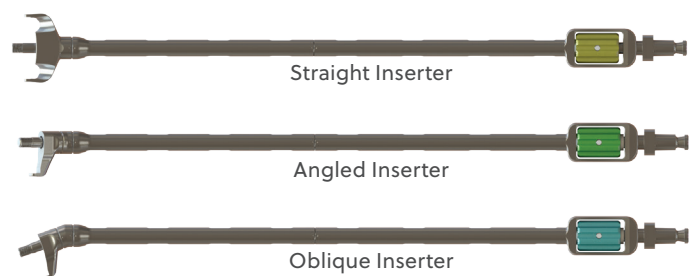

Figure 6
- To use the thumb wheel rotator, first remove the handle from the inserter (Figure 6).